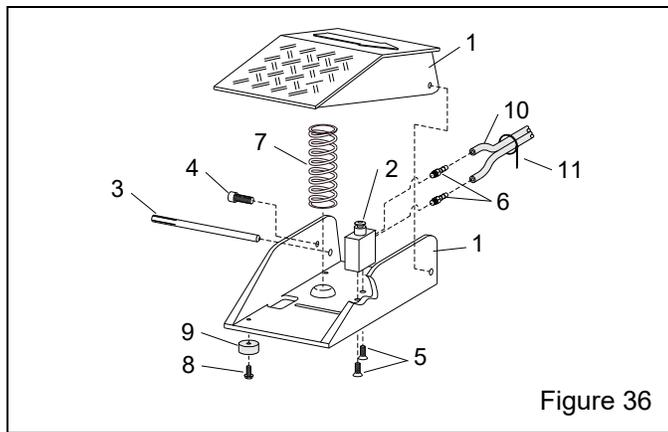

Figure 36
9.3 Foot-Pedal Assembly – Figure 36